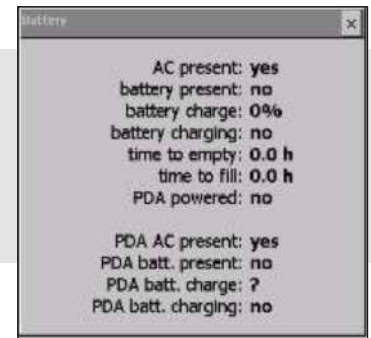

Fig.50. The battery monitor
- Battery charge level and whether it is being charged (fig.50).